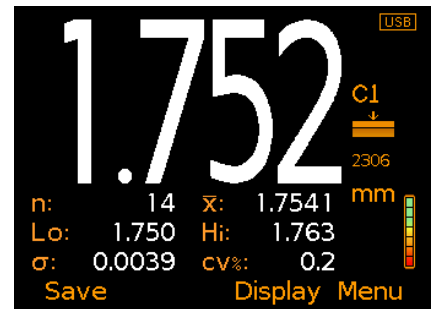

Figure 6: Statistics & Readings (Model B)
- **Statistics - Model B (Figure 6);** The following statistical values are displayed as each measurement is taken: